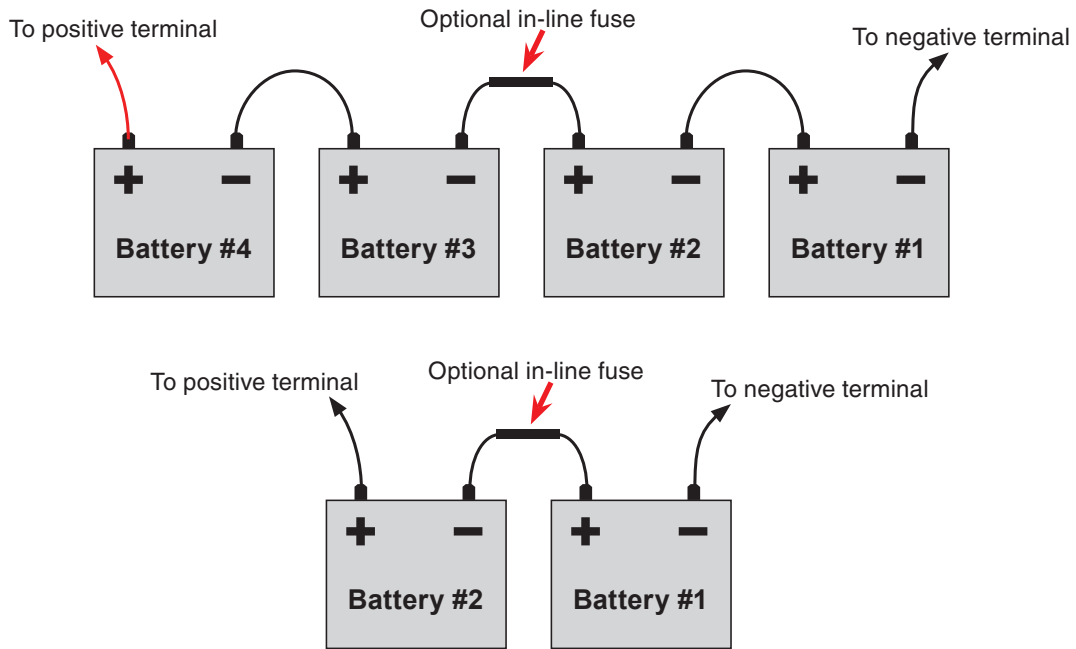

Figure 8 — External Battery Wiring (for 48 Vdc string (top) and 24 Vdc string)
**NOTE:** The optional in-line fuse option shown in Figure 8 on page 18, is available as part number SPB98-645-1, Kit, FuseUpgrade, 100A.
3. Connect the batteries as shown in Figure 8 on page 18. If used, install the in-line fuse as shown.